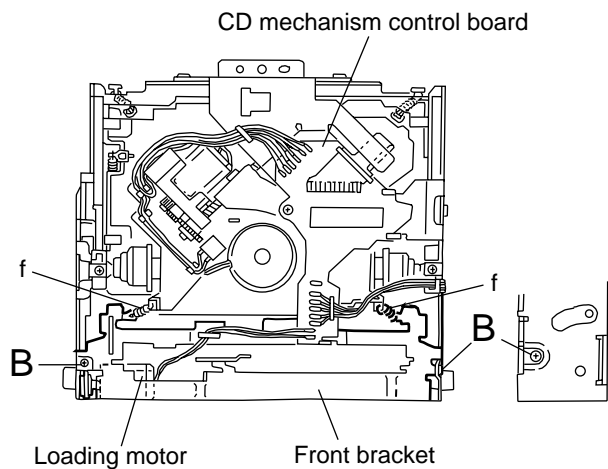

Fig.3
**■ Removing the loading motor (See Fig.3 to 5)**